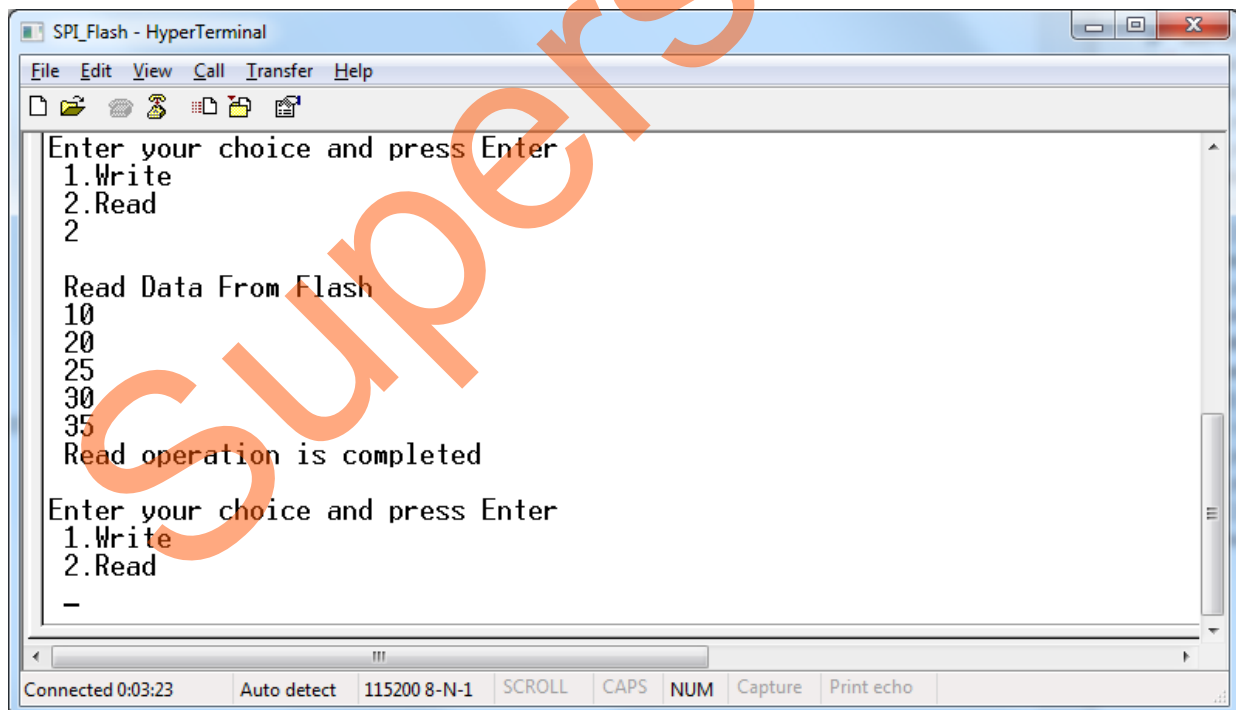

Figure 32 • HyperTerminal Window - Option 2
8. Select option 2 to read data from SPI flash memory as shown in Figure 32.